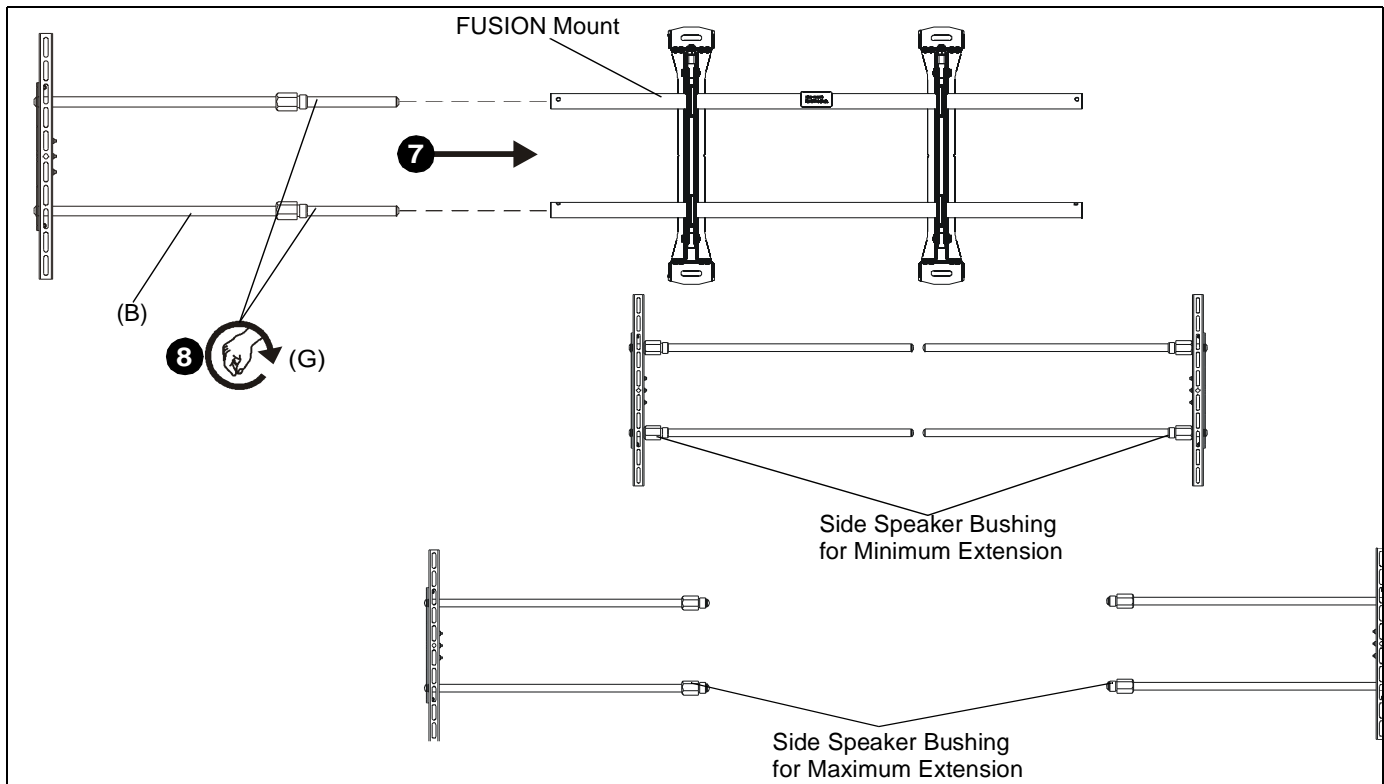

Figure 6
7. Slide rail extensions (B) into wall mount rails. (See Figure 6)
8. Tighten the four rail bushings (G) into the wall mount rails. (See Figure 6)